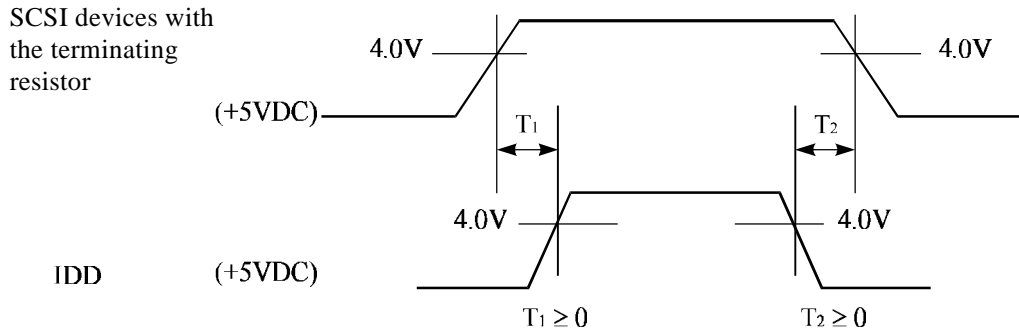

Figure 4.13 Power on/off sequence (2)
- c) In a system which does not use the terminating resistor power supply signal (TERMPWR) on the SCSI bus, the requirements for +5 VDC given in Figure 4.13 must be satisfied between the IDD and the SCSI device with the terminating resistor circuit.